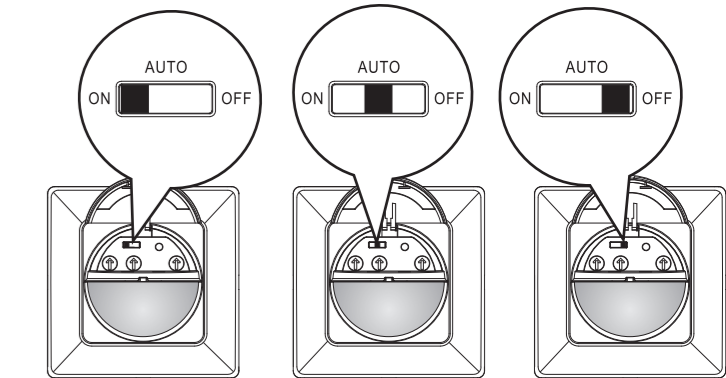

FIG.13
4.1.3 Slide switch function (See FIG.13)